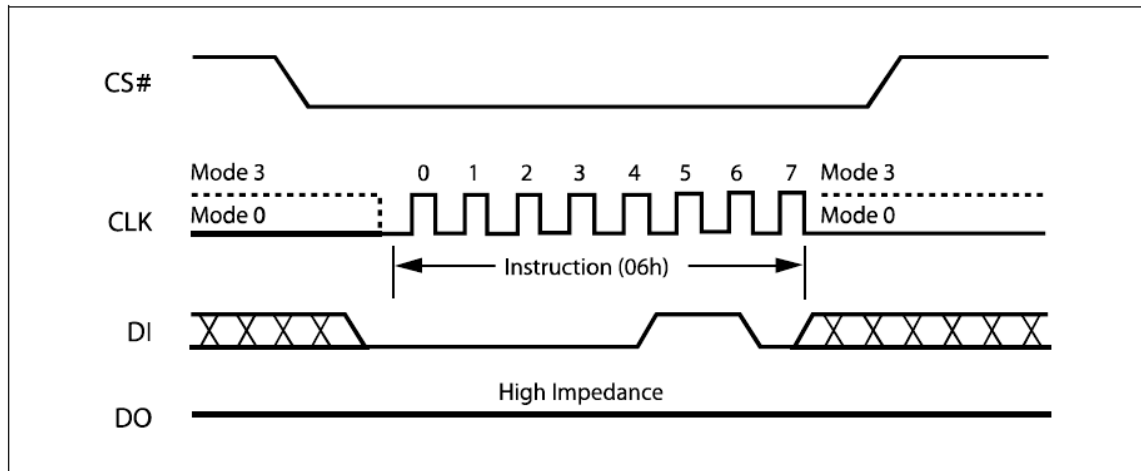

Figure 5. Write Enable Instruction Sequence Diagram
The Write Enable (WREN) instruction (Figure 5) sets the Write Enable Latch (WEL) bit. The Write Enable Latch (WEL) bit must be set prior to every Page Program (PP), Sector Erase (SE), Block Erase (BE), Chip Erase (CE) and Write Status Register (WRSR) instruction.